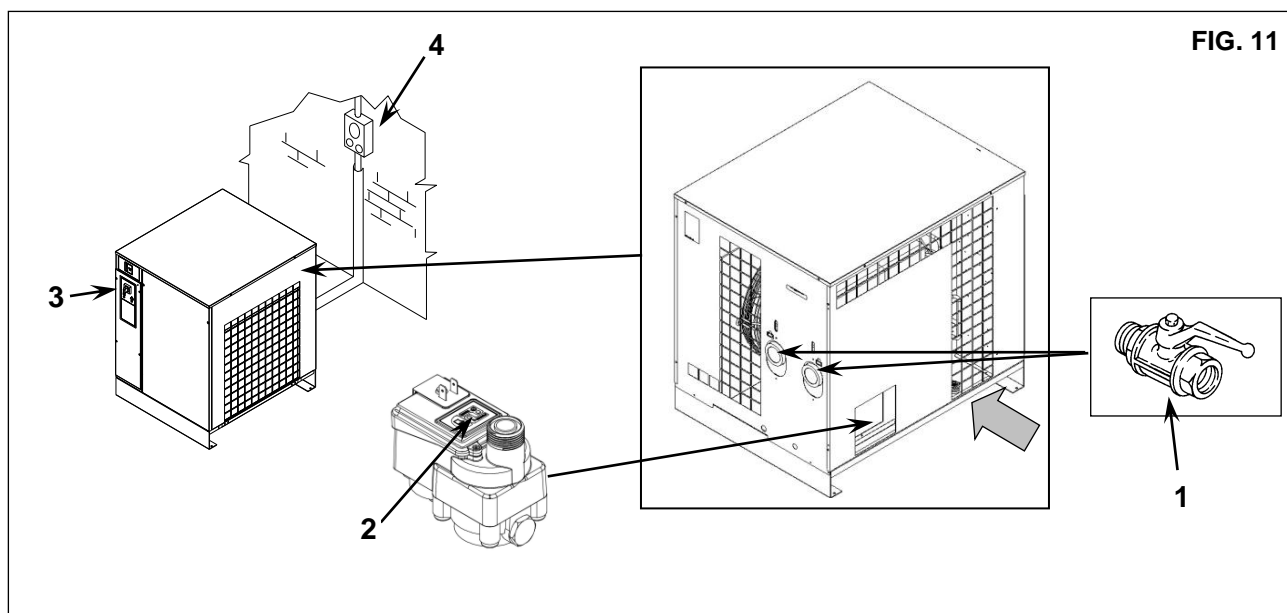

FIG. 11
- Close the taps Ref. 1 Fig. 11
- Release the pressure in the dryer by pressing the condensate drain "TEST" pushbutton locate on the steam trap Ref. 1 Fig. 11
- Switch off the machine. Turn the switch in position STOP Ref. 3 Fig. 11
- Turn on the supply automatic differential switch Ref. 4 Fig. 11